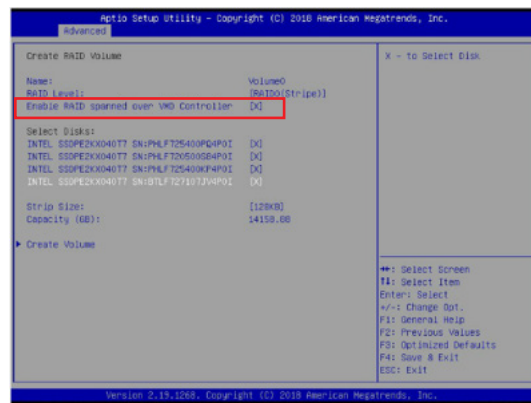

Figure 6-11. Created Volume *with* enabling RAID spanned over VMD controller
5. Repeat steps 3 and 4 for each PStack# on each CPU to be enabled or disabled. In this example, we enabled CPU1 Slot1 (Figure 6-11) and CPU2 Slot5 (Figure 6-12) (four U.2 form factor SSDs), as well as CPU1 M.2 C-1 and CPU1 M2. C-2 (two M.2 form factor SSDs)